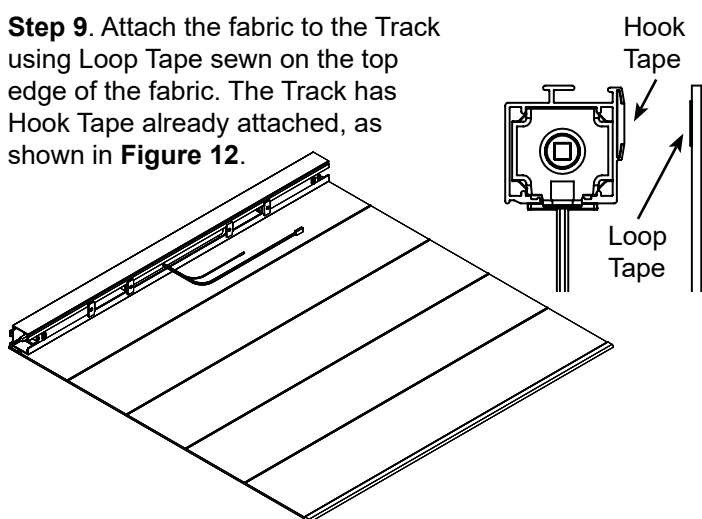

Figure 12. Attach Fabric to Track & Hook Tape with Loop Tape
Step 9. Attach the fabric to the Track using Loop Tape sewn on the top edge of the fabric. The Track has Hook Tape already attached, as shown in **Figure 12**.